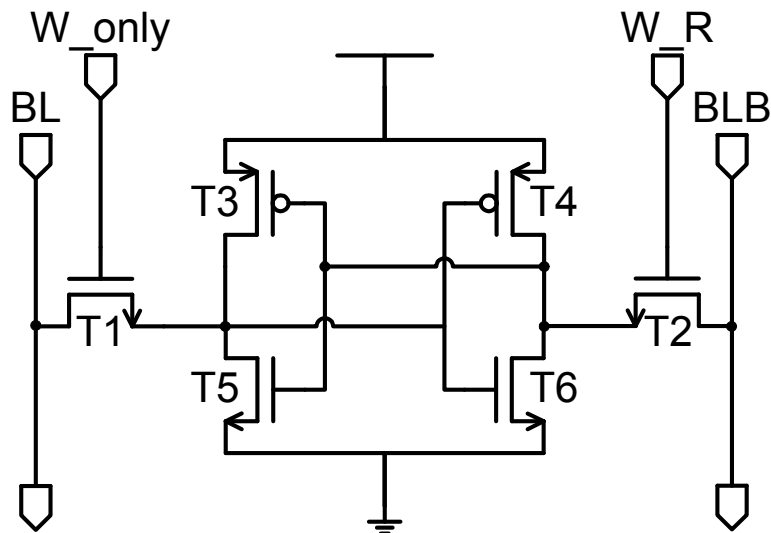

Figure 4. SRAM Circuit for Problem 4.0.
4.3 (4 Points) While sizing the SRAM cell from Figure 4 for robustness, what will the relative transistor sizings be for transistor pairs [T1,T2] and [T5,T6]. **Fill in the blanks below (fill in “greater than,” “less than,” or “equal” between pairs). Explain.**